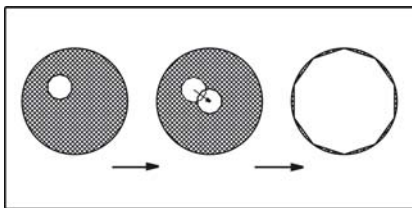

Fig.24
(3) Rotate the 20X objective into the light path and focus the specimen.
(4) Rotate the field diaphragm adjustment ring③ to put the field diaphragm to the smallest position. Then, the image of field diaphragm can be observed in the eyepiece.
(5) Rotate the condenser up-down knob, to adjust the image to be clearest.
(6) Adjust the condenser center adjustment screw④ and move the image to the center of the view field.
(7) Open the field diaphragm gradually. If the image is in the center all the time and inscribed to the field of view, it shows condenser has been centered correctly (See Fig.24).
(8) In actual use, enlarge the field diaphragm a bit and make the image circumscribed to the field of view.